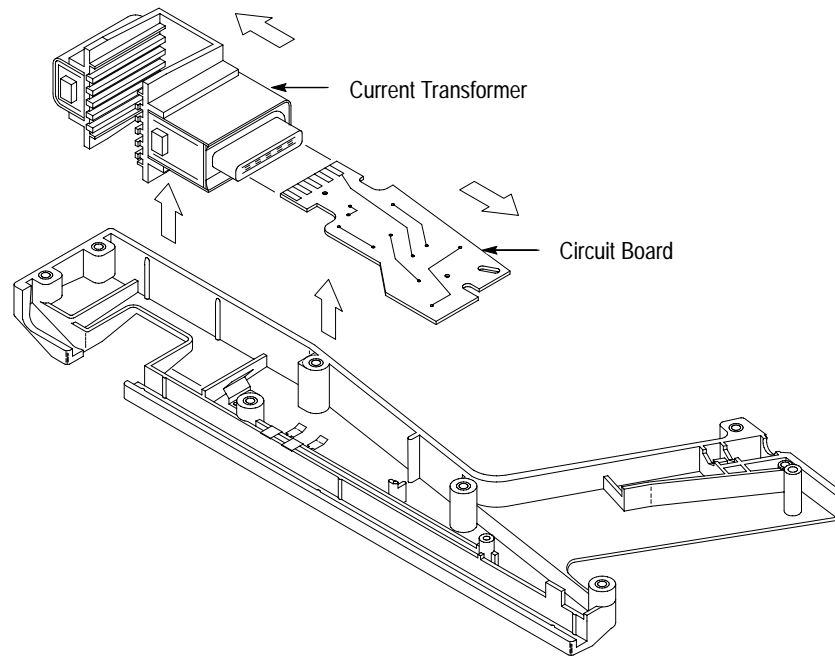

Figure 9: Removing the Current Transformer
8. To remove the current transformer, lift the assembly out of the probe as shown in Figure 9 and unplug it from the circuit board.